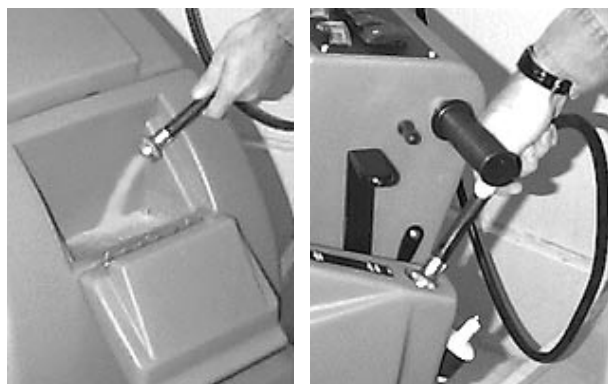

FIG. 10
- Open solution fill door at front of machine and fill solution tank with 64L (17 gal) of clean water, 60°C (140°F) maximum temperature. Or you can use the rear fill port to fill solution tank. Twist off plug and insert hose to fill. The clear tube below the fill port has 19L (5 gal) increment markers to indicate amount of water in tank (*Figure 10*).